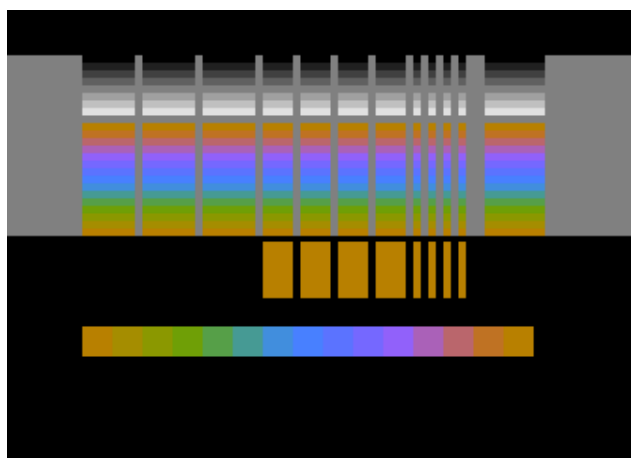

Figure 3-8. VIDEO Test display
1. The display has 3 parts (see Fig. 3-8 Video Test display). The top half of the screen shows the 9 color registers representing the players, missiles, and playfields against a gray background. The middle of the screen shows 4 players and 4 missiles (one color) moving up and down 1 scan line. The bottom of the screen shows a color tuning bar.